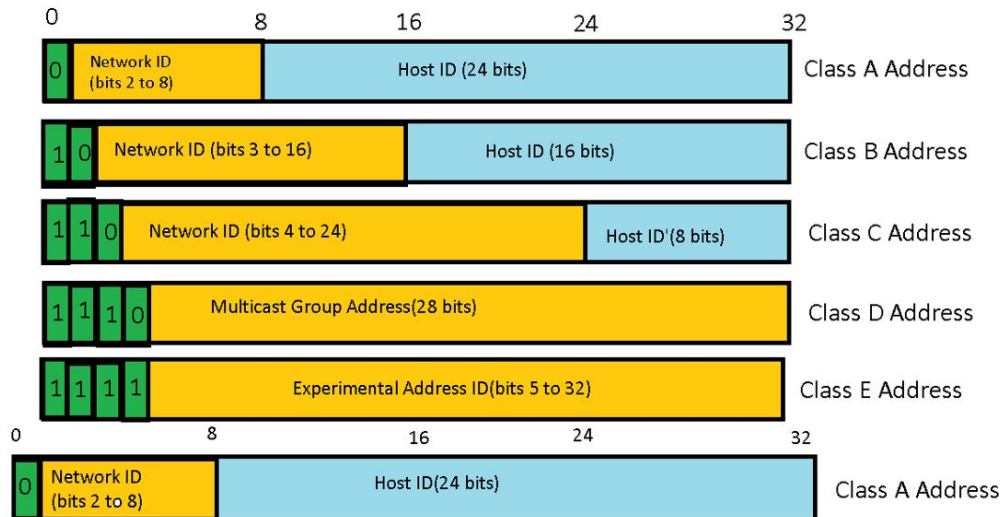

Figure 3.7: IPv4 Addressing
a. An ip address is a unique identification for a node connected to a network. An IP address comprises two halves-networks host ID. addresses are categorized into classes based on network id and host id. In this section, a complete and comprehensive analysis of IPv4 classes is presented. The IP addresses are classified into ClassA,ClassB,ClassC,ClassD and ClassE as shown in figure 3.7